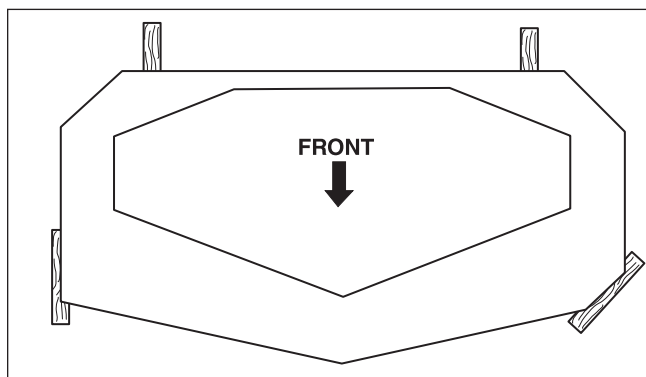

Figure 38. 2 x 4 Locations
6. Block up the mower deck until all hanger chains are slack. Refer to Figure 38.
3. Place 2 x 4 blocks under each corner of the mower deck with the 3-1/2" sides being vertical. Place a 1/4" (0,64 cm) thick spacer on top of the rear 2 x 4 blocks. See Figure 38.